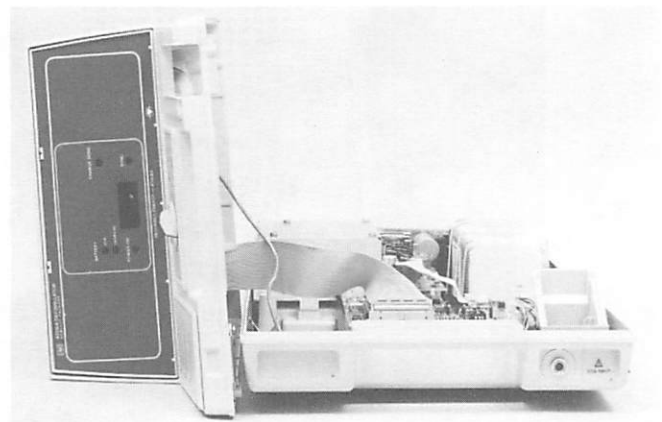

Figure 4-2. Inside View.
6. Lift the top half of the case from the bottom half. Place the top section on its side to the left of the bottom section. See Figure 4-2.